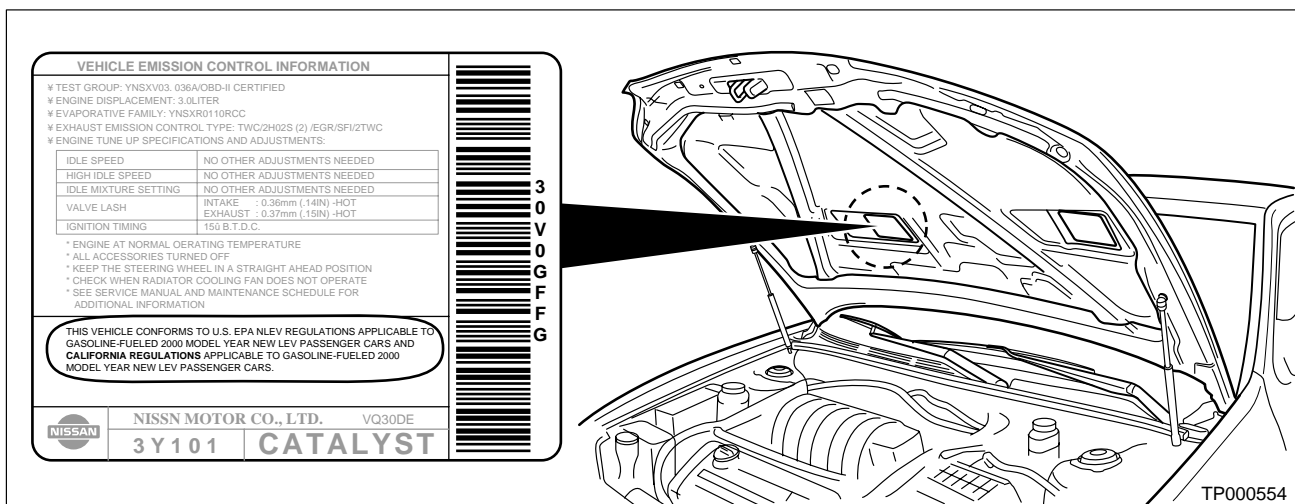

Figure 1
1. For **2000 Maxima vehicles**, check the Emissions Certification Label on the underside of the engine hood (see Figure 1). Is the certificate for California emissions?